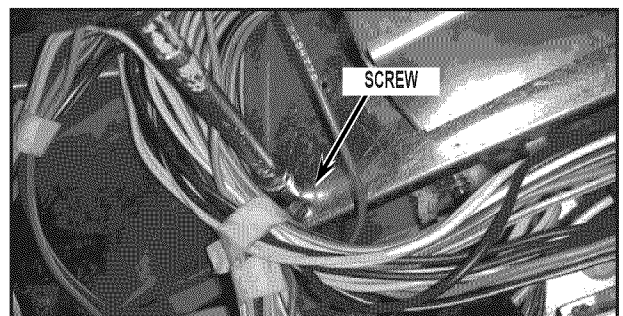

FIGURE 5
7. Remove the screw securing the ground wire for the old HV assembly. Set screw aside. See *Figure 5*.